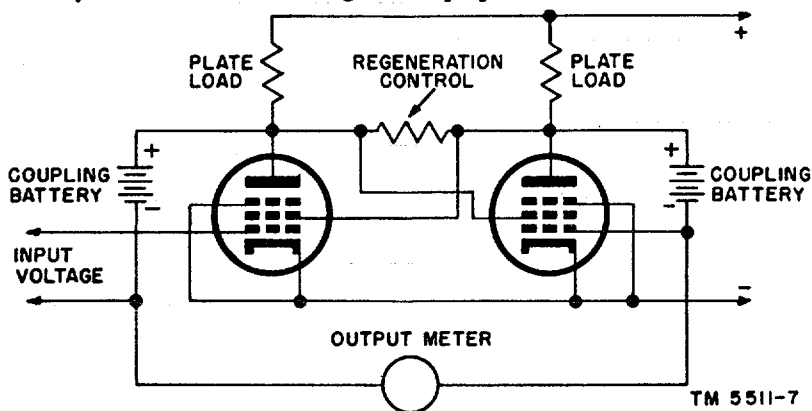
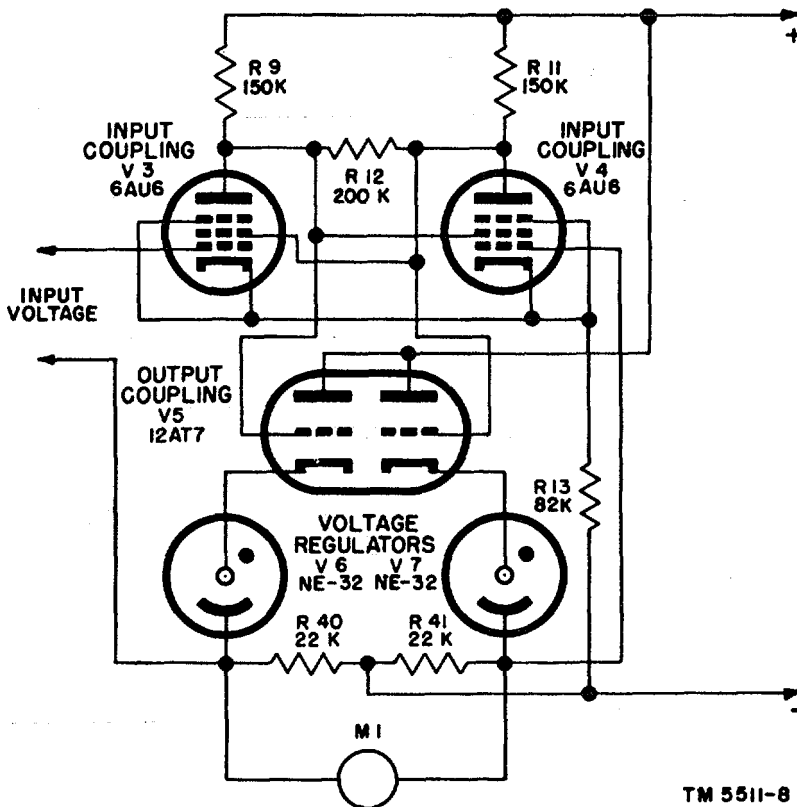
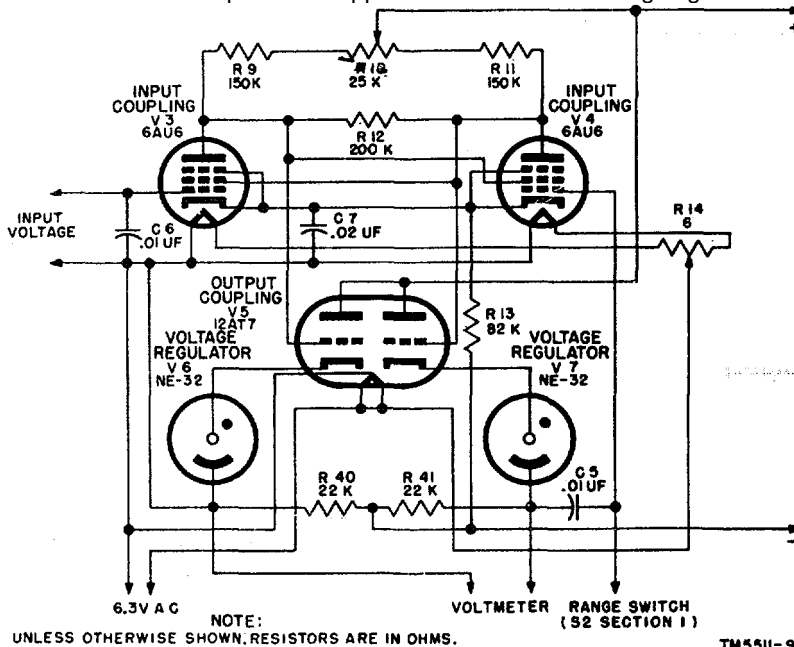

Figure 7. Simplified circuit illustrating amplifier operations.
Figure 8. Amplifier, simplified schematic.
Figure 9. Electronic Multimeter TS-505/U, amplifier schematic .
a. The amplifier portion of the multimeter consists of tubes V3, V4, V5, V6, and V7. The operation of the amplifier will be understood more easily after an analysis of the circuit in figure 7. If the coupling batteries are removed, the screen grid, plate, and cathode of one tube are so phased with the corresponding elements in the other tube that the two tubes will act as a multivibrator. Since the circuit is in a state of oscillation, infinite gain is theoretically available from the amplifier because any minute voltage would be greatly amplified. However, the circuit cannot be used in this manner because it would be much too unstable. If the coupling batteries are replaced, it is seen that the action from plate to grid is degenerative. Under these conditions, the output voltage will be equal to the input voltage, thus maintaining a high input resistance and -at the same time yielding the low output resistance necessary to operate the meter. The magnitude of the voltage from the coupling
b. The circuit in figure 8 is a simplified version of the circuit label which is found in Electronic Multimeter TS-505/U. The coupling batteries in figure 7 have been replaced by tubes V5, V6, and V7. Using tube V5 for coupling permits the operation of the plates of tubes V3 and V4 without any loading. Loading would occur if neon glow lamps V6 and V7 were connected directly to the plates of tubes V3 and V4. The neon glow lamps provide a low resistance coupling from tube V5 to the meter. Resistors R9 and R11 determine the gain of tubes V3 and V4. Resistor R12 sets the amplifier gain to unity. Resistors R40 and R41 provide a resistance across which the output voltage is developed. Resistor R13 is the biasing resistor for tubes V3 and V4.
c. The actual schematic diagram of the amplifier in the multimeter (fig. 9) is the same as that in figure 8 with the addition of several components.
Resistor R10 is used to adjust the zero setting of the meter. Resistor R14 is a coarse zero adjustment to allow for large variations in the characteristics of tubes V3 and V4 and to set the multimeter within the range of resistor R10. Note that the negative point of the power supply is not connected directly to one terminal of the input voltage under measurement. In figures 7, 8, and 9, the schematic indicates an open circuit in the grid of V3; actually, a resistor appears across this grid at all times. In figure 9, the indicating meter is not shown because the output is first applied to the switch before going to the meter.